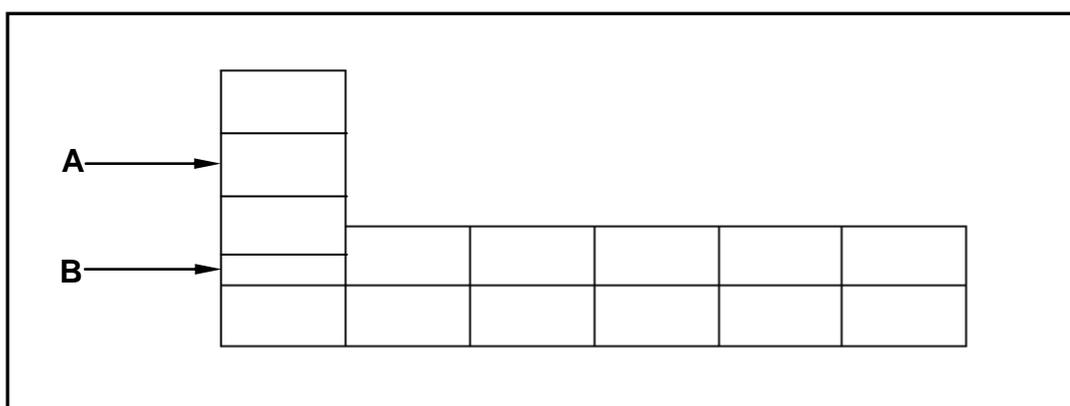

FIGURE 3.8
3.8 FIGURE 3.8 below shows the first course of a corner junction of a ONE-brick wall.